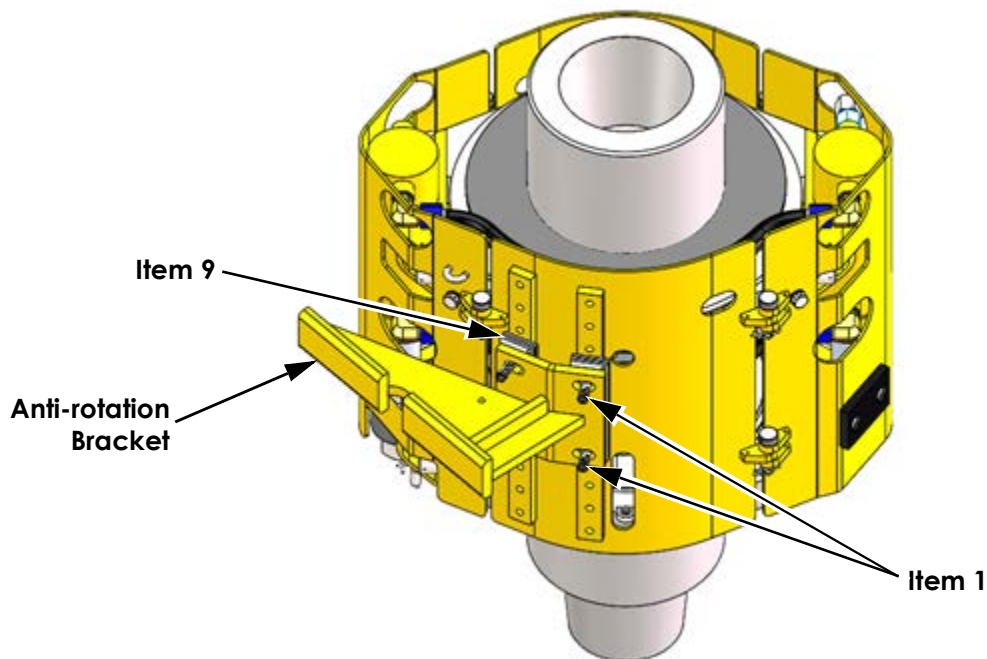

Figure 2: Installation of Threaded Studs
7. Install Qty. 4 of Item 1 (DT25176) into threaded holes on the guard panel as shown in Figure 2. Run studs down until they bottom out on the guard. Do not over torque.